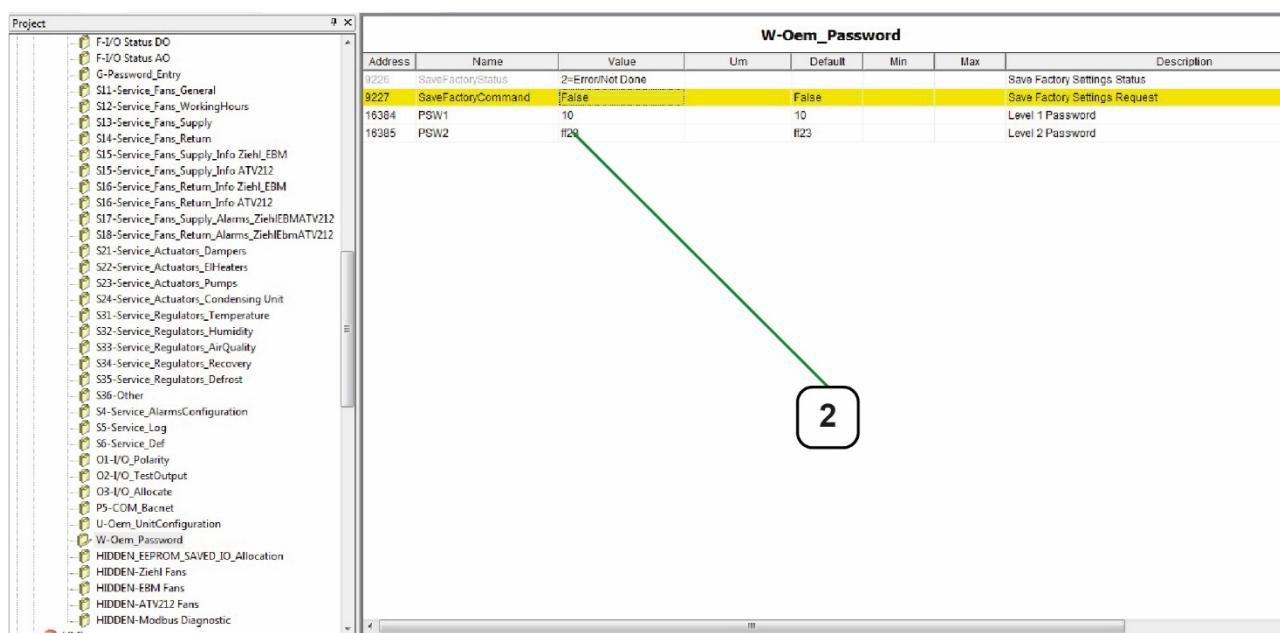

Fig 4 - “W-Oem_Password” Folder
NOTE: The “W-Oem_Password” folder (**Fig 4 - on pag. 14**) allows for the password to be managed and the “Factory.raw” configuration file in the file system to be saved. For further information on “Factory.raw” file, see **3.3.1.1 “Factory.raw” File on pag.15**.
4. visually read the value field of the PSW2 parameter (**2 - Fig 4 - on pag. 14**), visualised in hexadecimal format